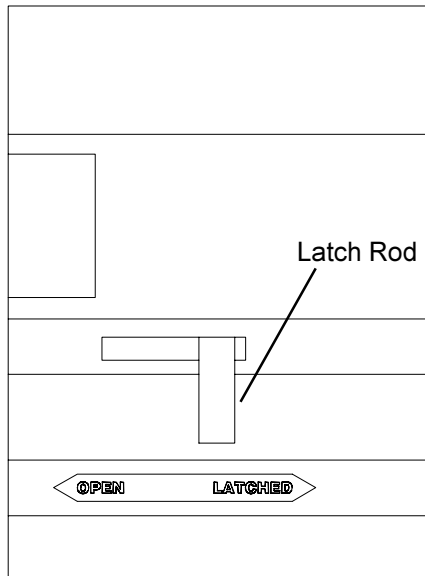

Figure 2.
1. Unbolt the padlock tab using a 1/2" socket or wrench. Place the Latch Rod in "LATCHED" position as shown in Figure 1. Install 5/16" x 3/4" Carriage Bolt into correct hole in Padlock Tab, install Padlock shackle into Padlock tab then secure to Lock Box using Locking Nut. See Figure 2 or 3.